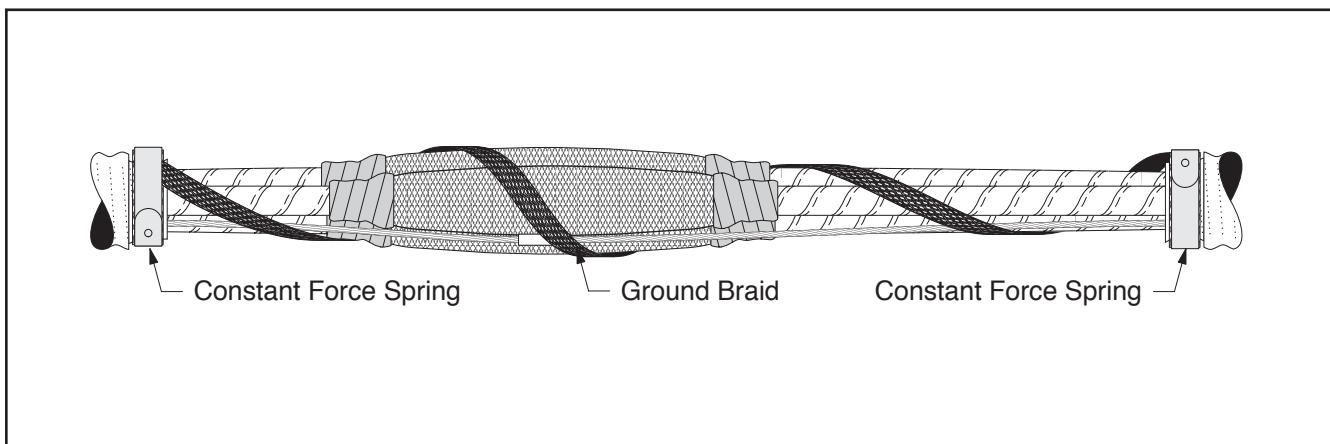

Figure 20
- Spiral wrap the braid around the splice to Cable Y. Single wrap the braid around the exposed armor using the same 90° fold as above. Secure with a large constant force spring (Figure 20).